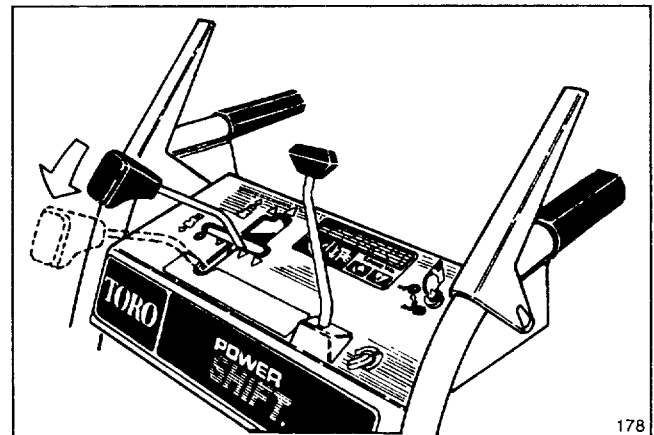

Figure 9
4. Install (2) flange bolts thru front slots in skids and thru sideplates. Install flat washers and locknuts on inside of sideplates. Do not tighten bolts.
5. Manually move wheels to the rear Power Shift position by lifting up on handles and moving the shift control fully forward to Power Shift position (Fig. 9).